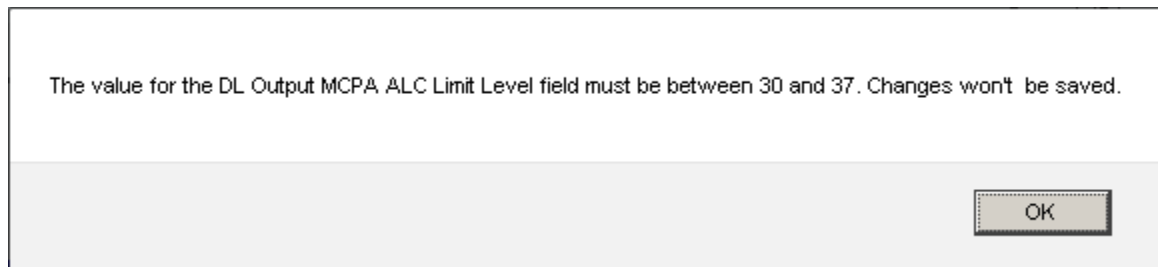

Figure 15 – Value is not into valid range error message
- If the value is not valid, an error message will be displayed (see Figure 15) and the new value will be not accepted keeping the previous value.